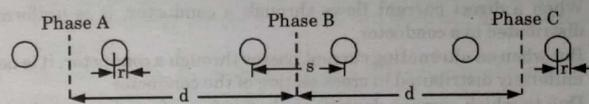

Fig. 2.9.1.
1. A bundled conductor is a conductor made up of two or more conductors, called the sub-conductors, per phase in close proximity compared with the spacing between phases Fig. 2.9.1.